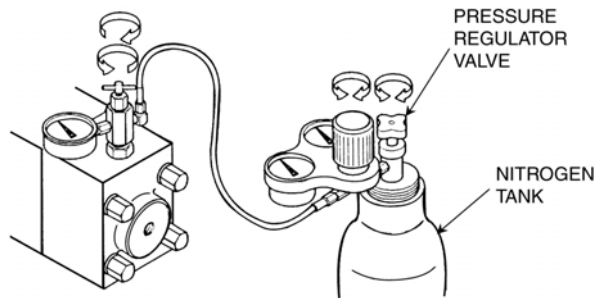

Figure 8. Connecting Gas Charger to Nitrogen (N₂) Supply
- d. Open the main gas valve on the N₂ gas container and regulate the N₂ gas pressure (see Figure 8.)